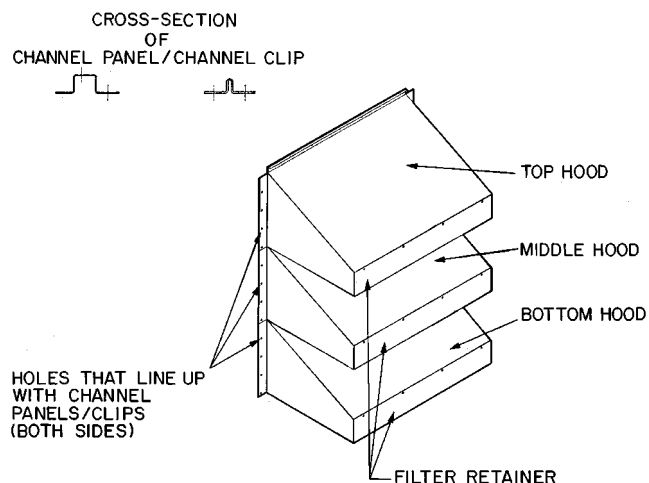

Fig. 13 — Economizer Hood Assembly Holes
- 2 — channel panels } —see Fig. 13 for cross-section
4. See Fig. 13, and insert the capscrew bolts through the flange holes shown, from the back side, threads facing outward. Note that though there are 12 holes (4 per hood) per side, only the 3 shown per side are to be used.